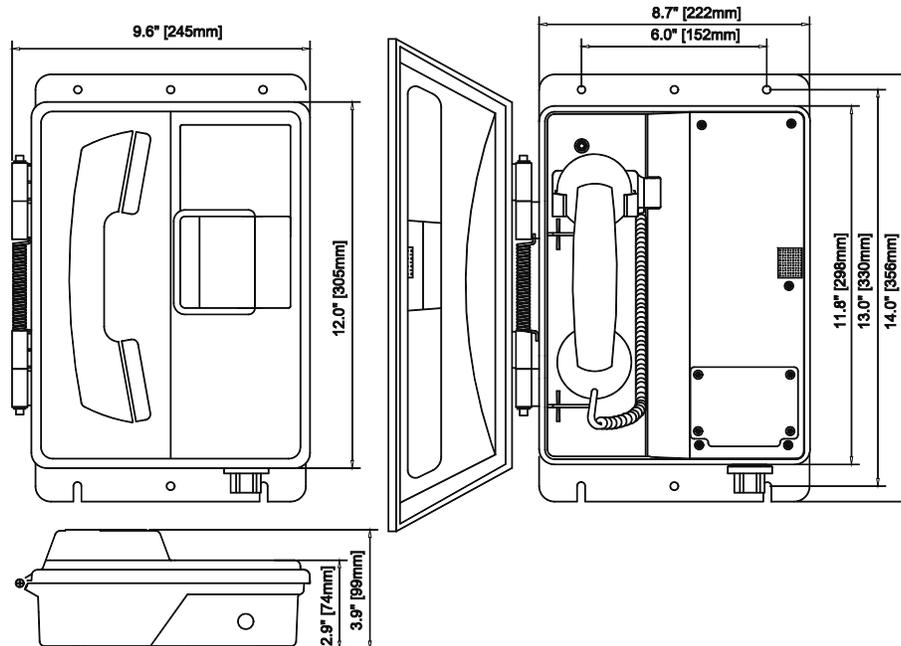

Figure 2 Overall Dimensions
2. Use the telephone as a template to locate and drill mounting holes (Fig.2.) Use (#8 or M4) screws to secure the unit to the wall. Ensure mounting can support 6.5lbs/2.95kg
4. Secure the unit to the wall, open door and remove the (4) #8 Philips drive screws on the access plate.
7. Ensure all connections are tight, then replace the access plate and secure with (4) #8 Philips drive screw.